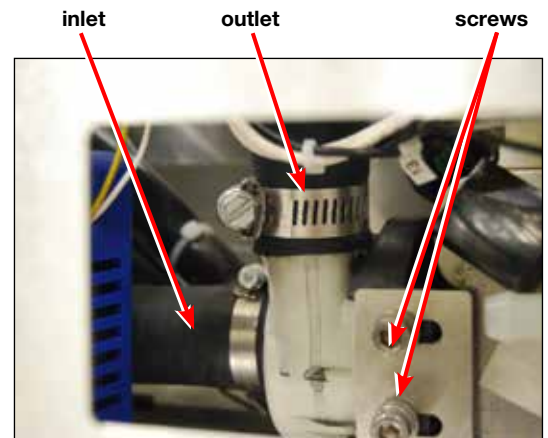

Figure 30d
4. Loosen the hose clamp from pump outlet (Figure 30d)